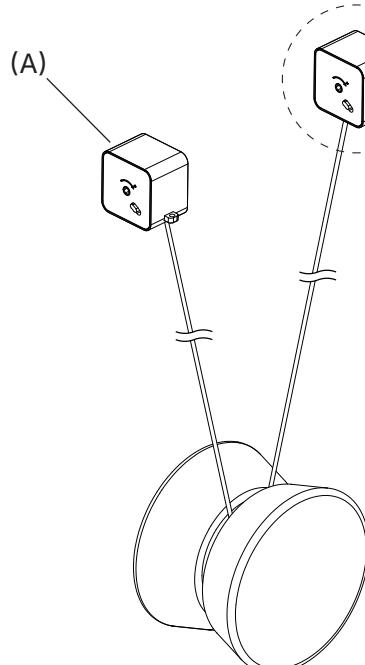
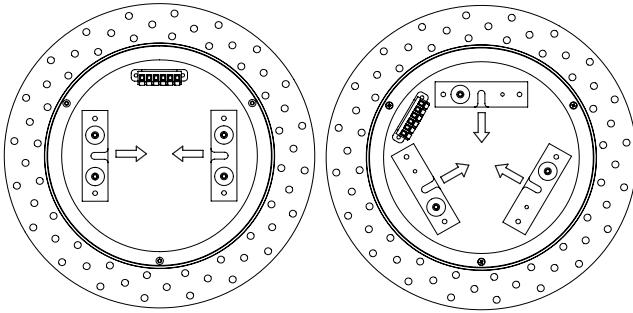

Fig. 4
Fig. 5
Each luminaire has two **Cord Spools (A)** (Fig. 4) for adjusting the cord length and transferring power from pendant to pendant.
1. To install a Cord Spool into a canopy: Loosen the **Mounting Screws (B)** on one of the **Spool Brackets (C)** in the canopy. Place Cord Spool into bracket. Tighten the Mounting Screws into the **Mounting Tabs (D)**.
NOTE: For recessed double and triple canopies, install Cord Spools with **Adjustment Screw (E)** pointing inward toward center of canopy (Fig. 5) for easier access to adjust cord tension (see p. 9).